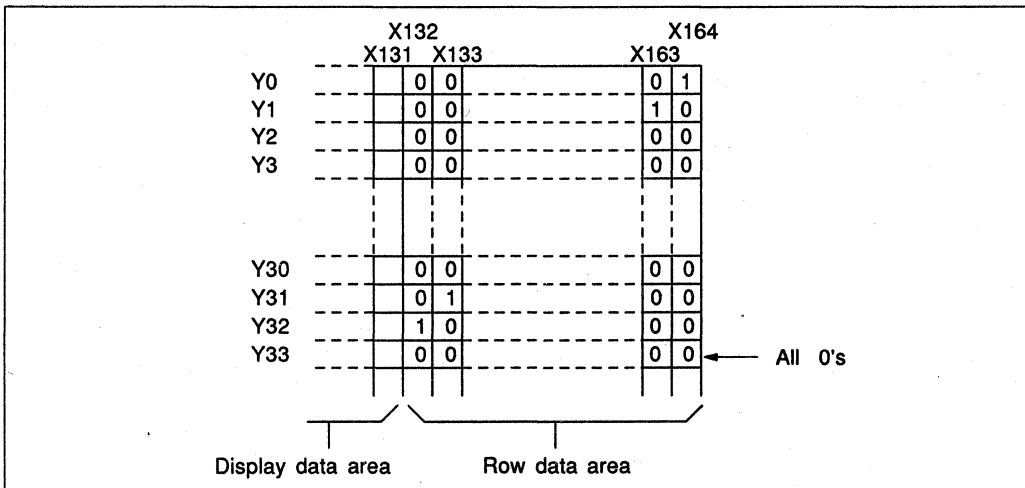

Figure 35 How to Set Row Data for 33-Row Output from the Right Side
- (2) Although the maximum output rows is 33 when 33-row-output mode from the right side is specified, any multiplexing duty ratio can be specified. Therefore, row output data sufficient to fill the specified duty must be input in the Y direction. Figure 35 shows how to set row data in the case of 1/34 multiplexing duty ratio. In this case, 0s must be set in Y33 since data for the 34th row (Y33) are not output.
- (3) Do not set the C select register's CLN bits to 0 for the M signal of C-type waveform.